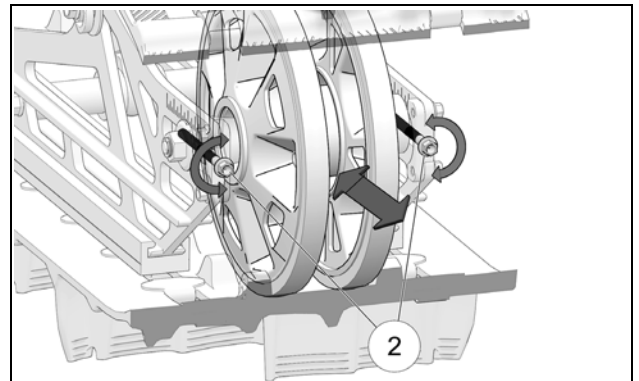

Figure 44
- Rotate the right and left rear wheel axle adjusting bolts (2) an equal number of turns, clockwise or counterclockwise, to set the Track to the recommended tension. See Figure 44.